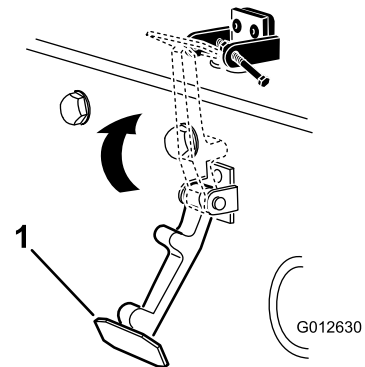

Figure 5
7. Close the hood and hook the latch onto the hood-latch bracket (Figure 5).